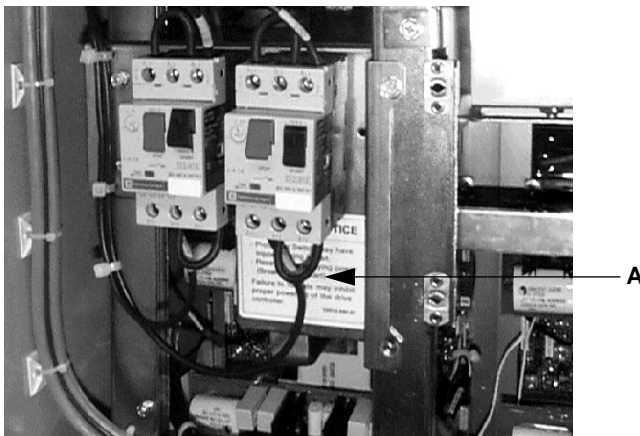

Figure 4.3.24: Precharge Circuit Protector Panel
6. When removing the snubber boards in the left-most power pole section, remove the four screws securing the precharge circuit protector panel to the hinged assembly frame and the DB flexible bus cover (A in Figure 4.3.24). Without removing any wires from the precharge circuit protector, pull panel out of the way.
6. After installing the snubber boards in the left-most power pole section, reinstall the precharge circuit protector panel to the hinged assembly frame and the DB flexible bus cover (see Figure 4.3.24 on page 4.3.31). Secure with four screws and torque to 36 lb-in (4.0 N•m).